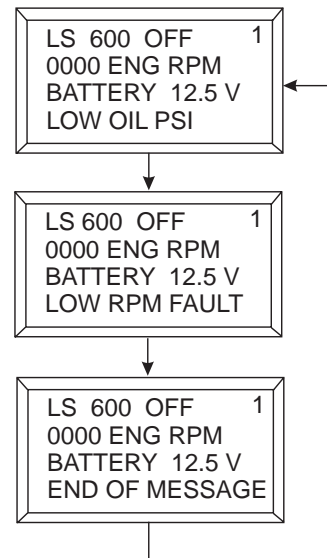

Figure 26. Primary Screen (Ignition Key ON)
6. When the ignition key is in the **ON** position, the **digital readout screen** (primary) will cycle through 3 displays as shown in Figure 26.